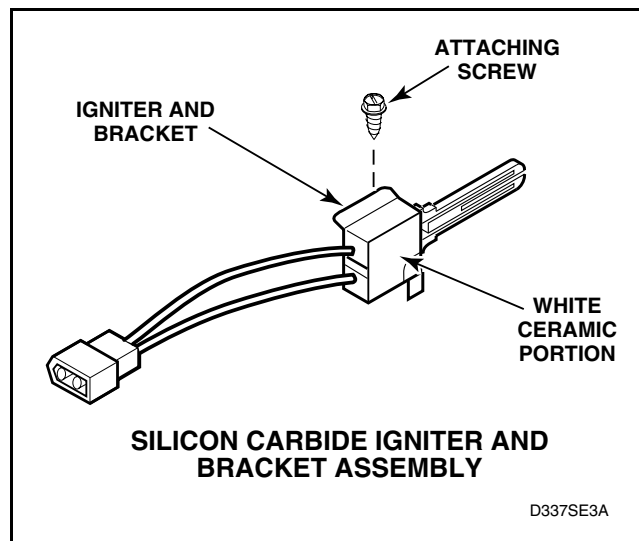

Figure 50
- Silicon Carbide Igniter** – meter should read between 45 – 200 Ohms. Refer to *Figure 50*.